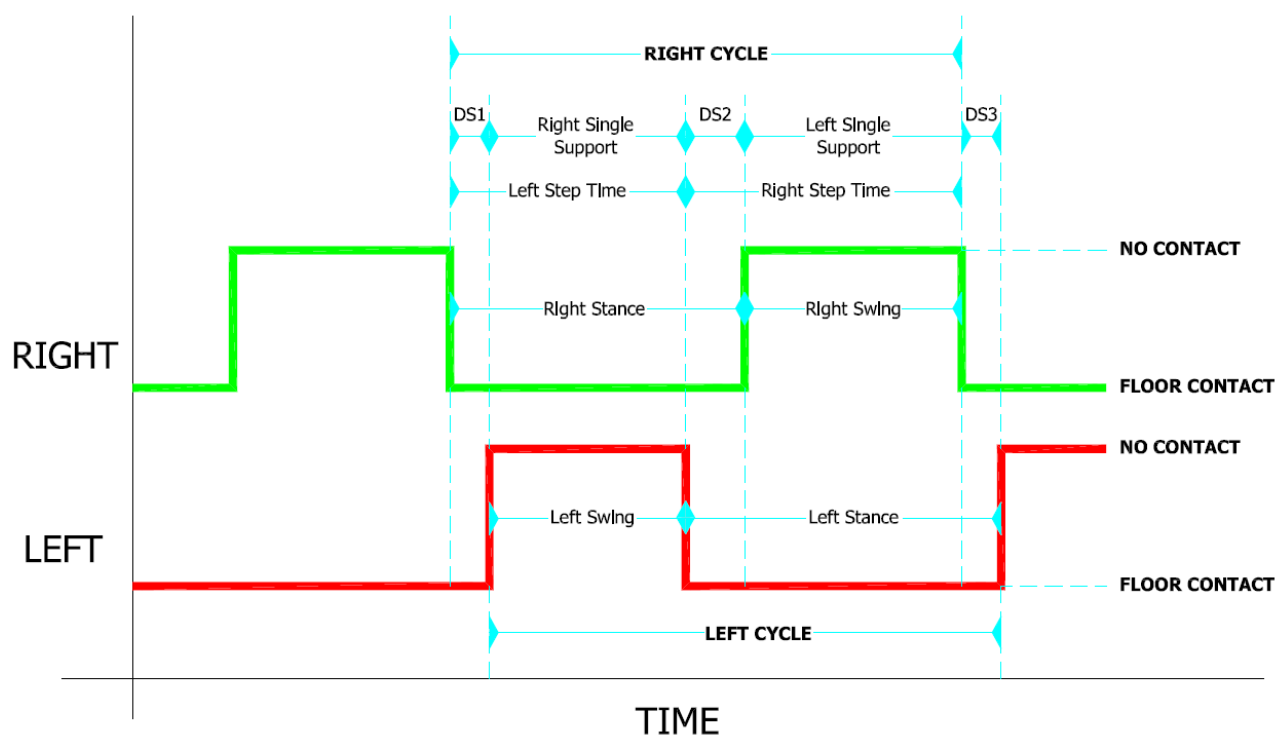

Figure 122 - Gait analysis terminology
Each gait cycle consists of two phases, where both feet are in contact with the ground, called **Double Support**. The first Double Support (DS1 in Figure 122 - **Gait analysis terminology**
- **Total Double Sup [s | %]:** This is the sum of two partial double supports, defined as DS1 and DS2 in Figure 122 - Gait analysis terminology